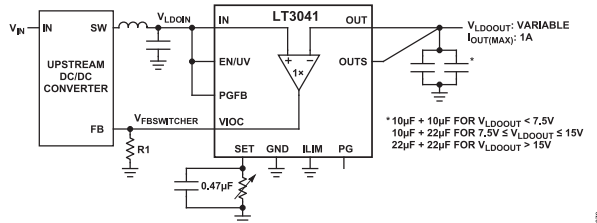

Figure 79. VIOC Basic Operation (V_{LDOIN} Is the LDO Input Voltage, and V_{LDOOUT} Is the LDO Output Voltage.)
The VIOC pin controls an upstream switching converter (for example, buck, boost, or buck-boost) to maintain a constant voltage across the LT3041, regardless of the output voltage of the LDO regulator. This constant voltage maximizes efficiency while maintaining PSRR performance. The VIOC pin is the output of a fast unity-gain amplifier that regulates the IN voltage to a voltage that is a fixed offset above the higher of OUT or 1.5 V. As shown in Figure 79, the VIOC feature is simple to use. Connect the VIOC pin to the feedback (FB) pin of the upstream switching converter ($V_{FB\text{SWITCHER}}$), which regulates the input-to-output differential of the LT3041 to the feedback voltage of the switching converter. When paralleling multiple LT3041 devices, connect the VIOC pin of one of the LT3041 devices to the feedback pin of the upstream switching converter and float the remaining VIOC pins.